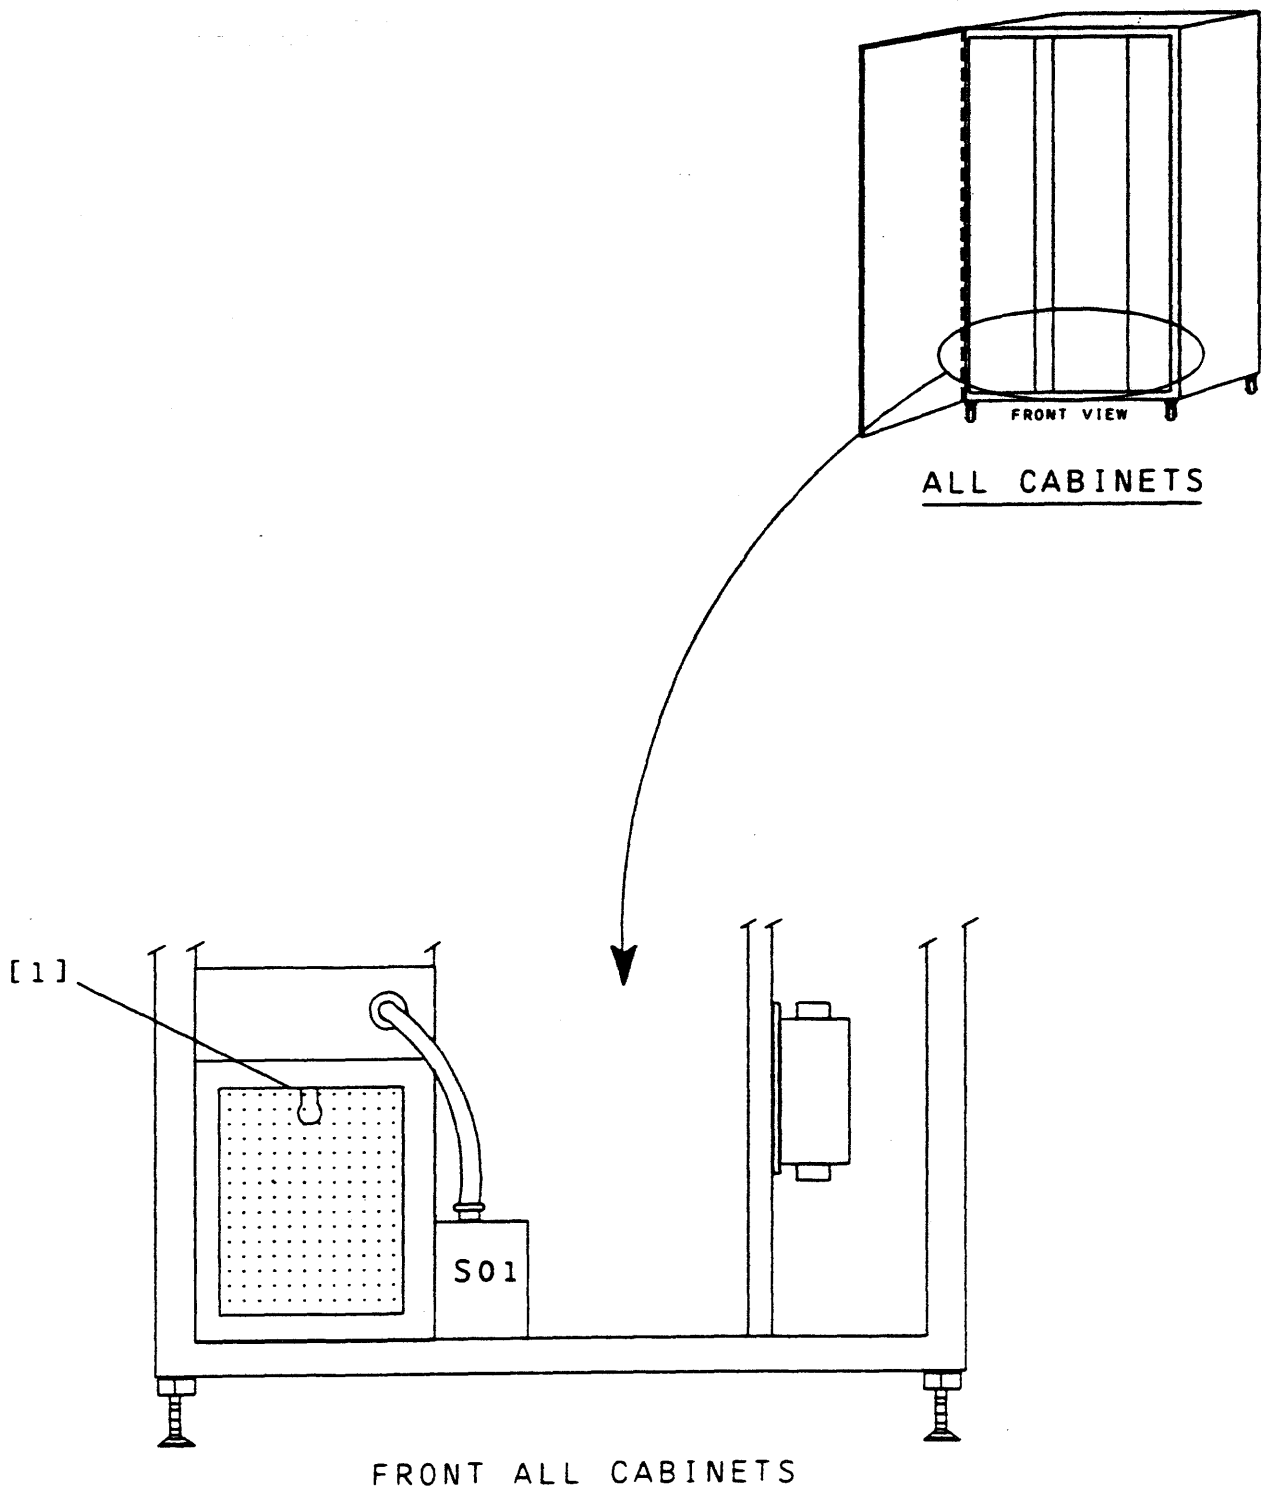

FIGURE 2.26-1. AIR FILTER ELEMENT REMOVAL/INSTALLATION
6. Using air filter pull tabs, remove front and top filter elements from securing channels (Figure 2.26-1, [1]).